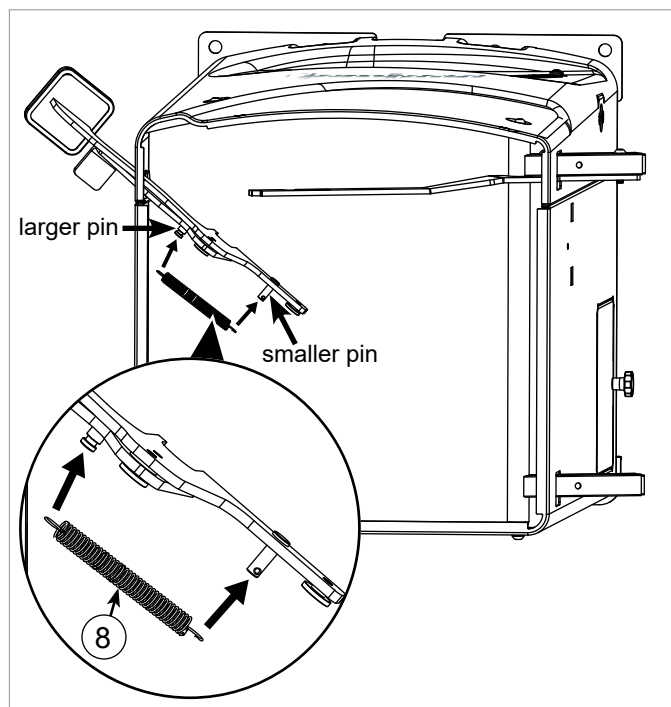

Fig. 10
10. Remove the extension spring from the hardware pack and attach one end of the spring to the small pin in the pedal assembly by sliding one end of the spring through the hole in the small pin. Stretch the other end of the spring over the large pin in the pedal assembly (see Fig. 10). There is a circular groove on the large pin to hold the spring in place.